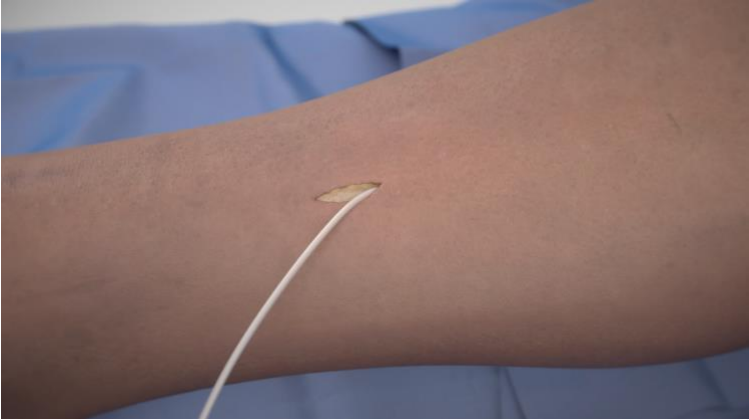

**Figure 4**
5. Ensure there is no slack at the first incision entry site before withdrawing the introducer from the subcutaneous receiver pocket. (Figure 4)